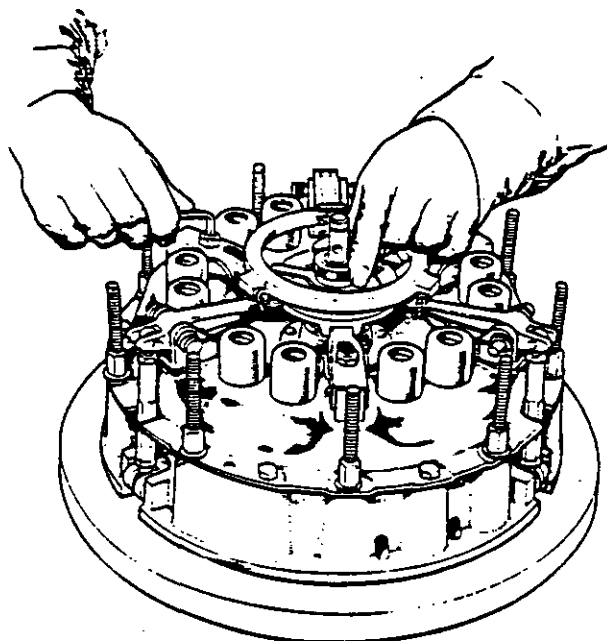

Figure 27.
8. Remove actuator and screw centre pillar firmly into adaptor. Place a spacer, Code 16X (some early spacers were marked "Code 16" only), on centre pillar — recess in spacer towards adaptor. Fit short setting finger on centre pillar and set adjusting screws on transmission levers so that when finger is rotated whilst being held firmly and squarely against spacer, it just touches lever plate all the way round. (Fig. 27.) When the levers are correctly set, hold screws stationary and firmly tighten locknuts.